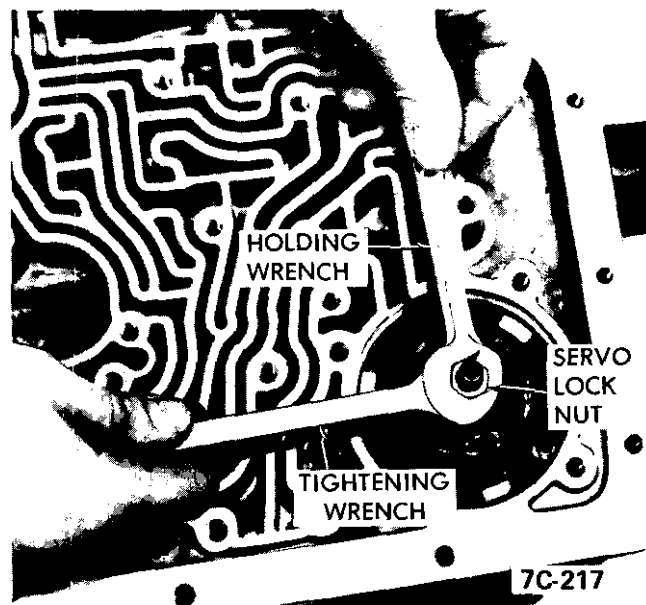

Figure 7C-227
4. Using 3/16" hex head wrench on servo adjusting bolt, adjust servo apply rod by tightening adjusting bolt to 40 lbs. in. Back off bolt five (5) turns. *exactly*. See Figure 7C-226.